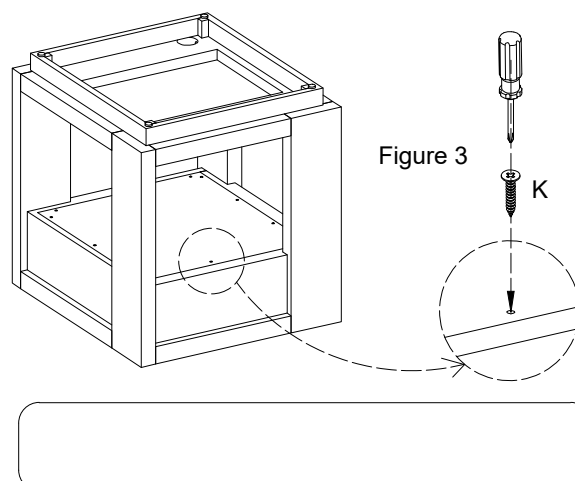

Figure 3
4. Attach dust panel to drawer box by using screws (K) As shown in Figure 3.